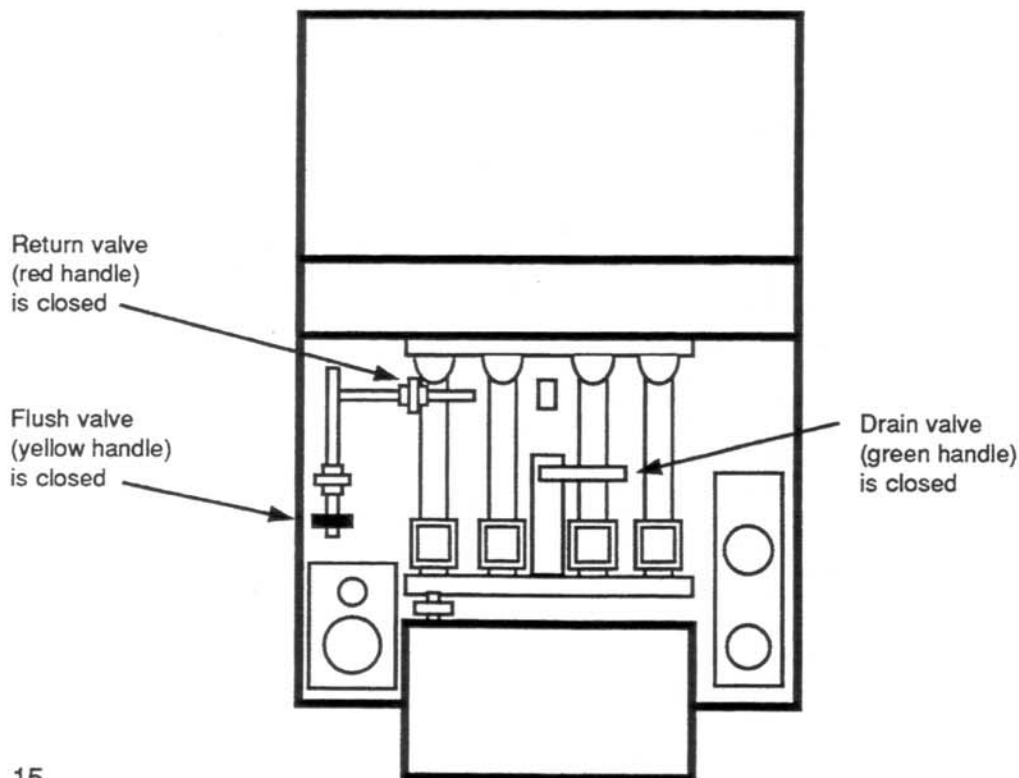

Fig. 15
3. Figure 15 shows how to set the valves when you are filling the fry kettle. Close the drain valve (green handle). Swing the handle clockwise so it points to the left.